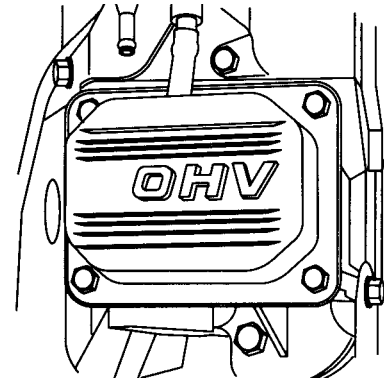

Fig. 18 - Install Valve Covers
3. Install valve covers with new gaskets, Fig. 18.